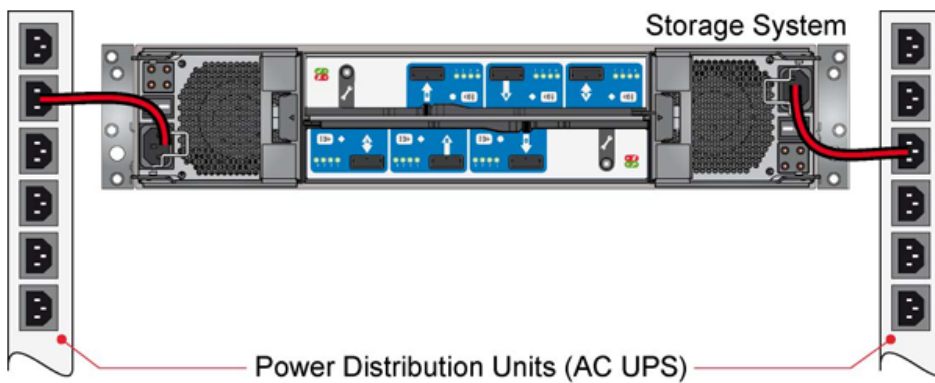

Figure 3-6 - AC Power Cable Connections to PCMs
1. Connect the power cord(s) to the Power Distribution Unit(s) (PDUs) (see Figure 3-6).